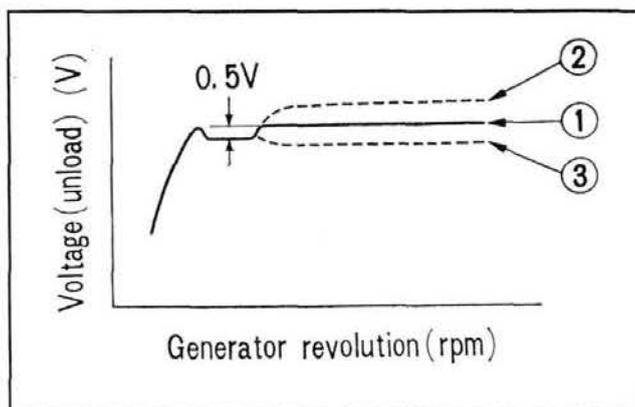

Fig. 8-13 ① Standard ② Wide core gap ③ Narrow core gap
② Adjusting screw
**Note:** There will be a 0.5V rise in voltage when the low speed contacts changes to the high speed contacts in the regulator. (Fig. 8-13)